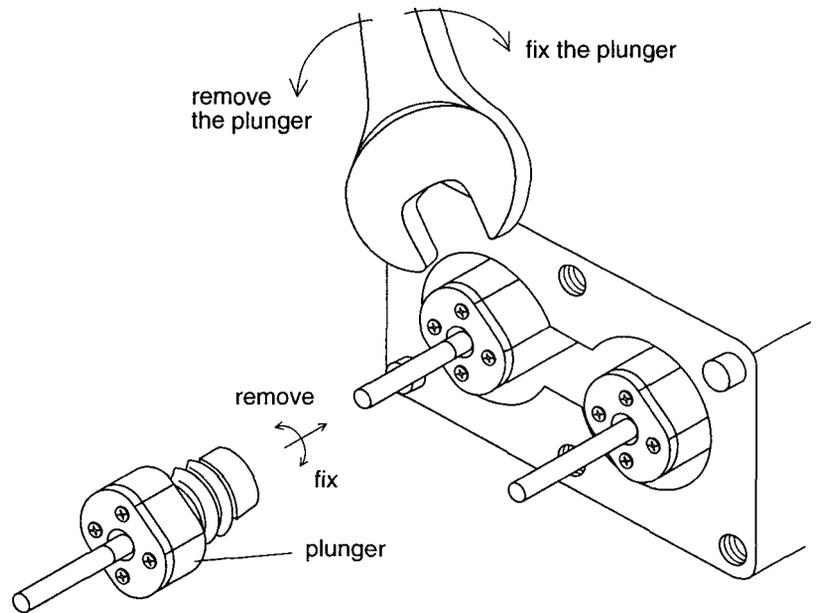

Fig. 8.6
- (3) Release and remove the two screws on the left and right sides of the head holder with the accessory Allen wrench. Then, release the two screws at the center alternately and gradually, and remove the head holder and the springs gently so that the head holder does not become cocked and jamb.
- (4) Remove the plunger by turning it counterclockwise with the accessory wrench (13 x 17) as shown in Fig. 8.6.
- (5) Mount the new plunger and **fix** it with the wrench.